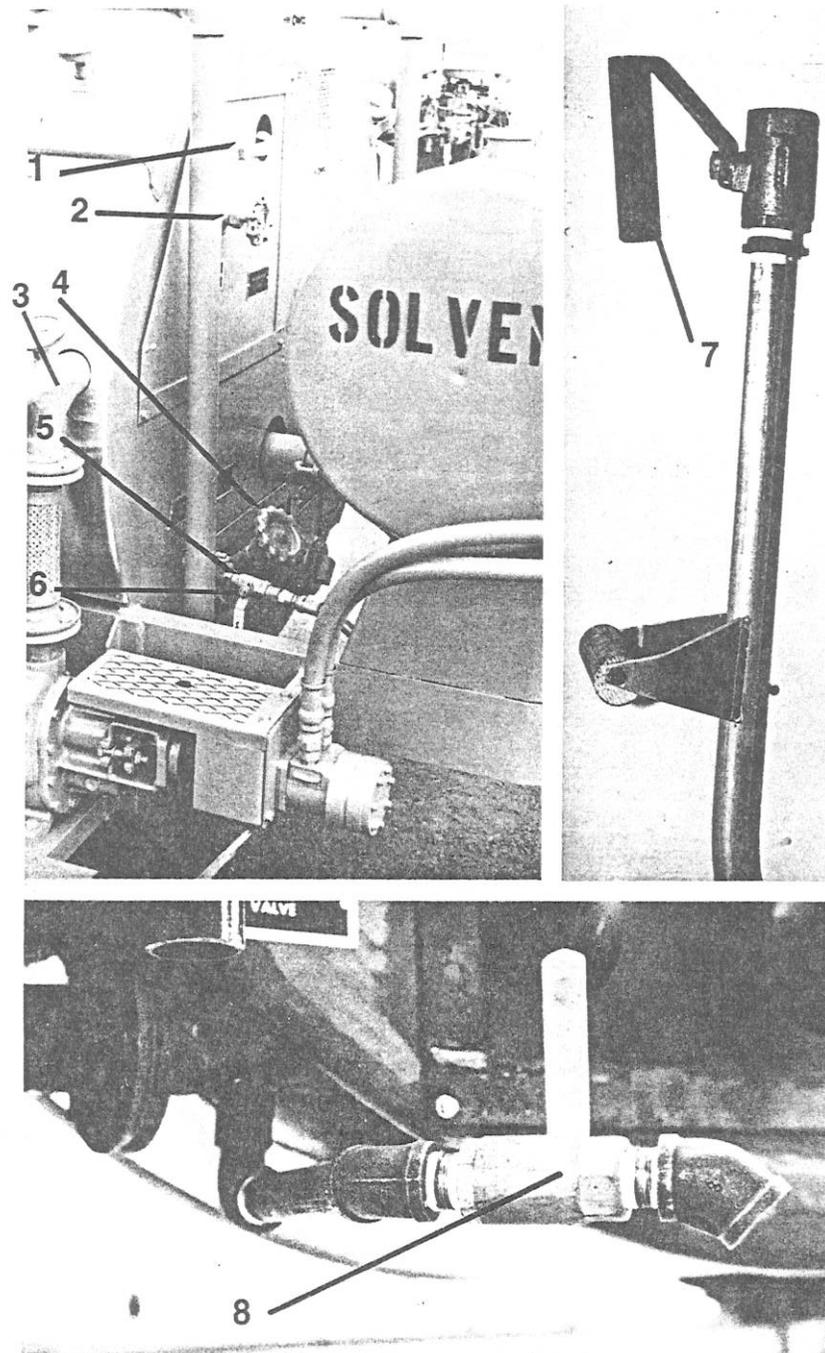

FIGURE 1
7. All valves should be in closed position. See Figure 1.